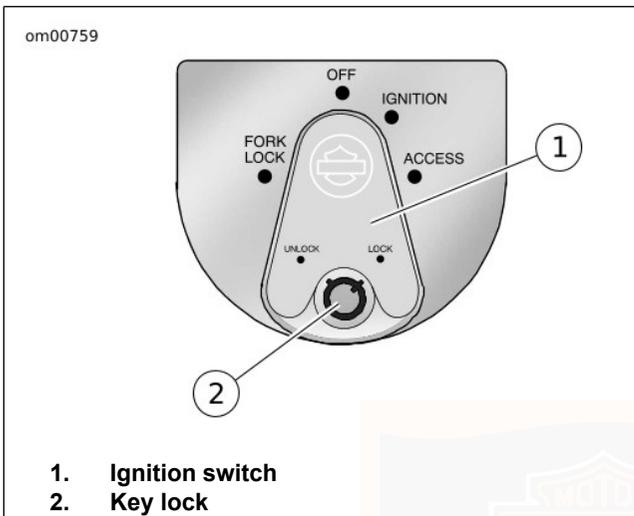

Figure 4. Ignition Switch/Fork Lock
See Figure 4. The ignition switch (1) controls electrical functions of the motorcycle. The key lock (2) locks the switch in the FORK LOCK or the ACCESS position.
2. See Figure 4. Turn the ignition/headlamp key switch to the IGNITION position and push the START switch to operate starter motor.
2. See Figure 4. Turn the ignition/headlamp key switch to the OFF position to turn the ignition power completely OFF.